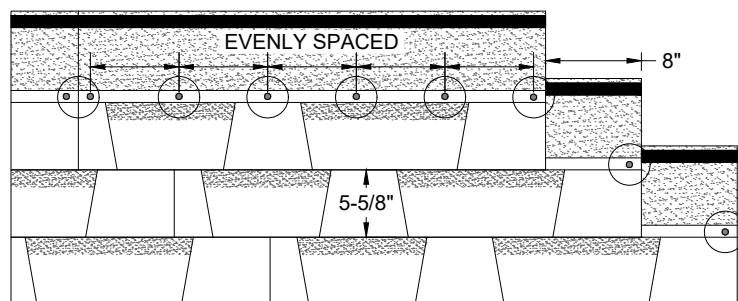

Figure 8 - Laminate, 6-Nail Fastening Pattern
Two methods for fastening can be used, but for each, the outer fasteners must be placed in the nailing area approximately 1" (25 mm) in from each edge. The first method has the remaining four (4) fasteners also placed in the nailing area and evenly spaced between. **(See Figure 8)**